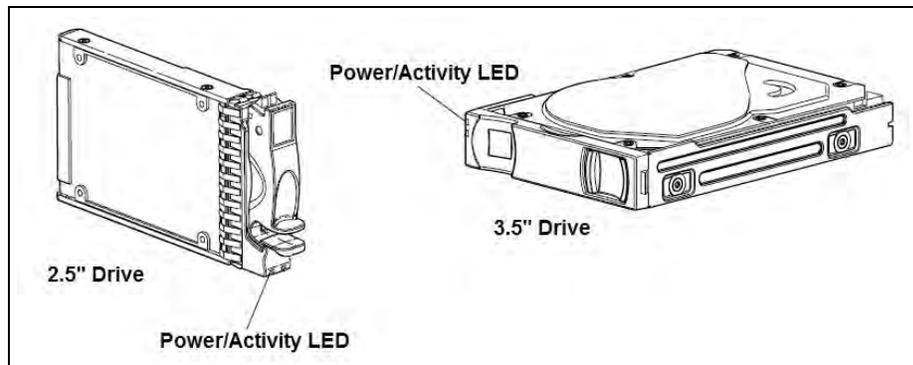

Figure 5.53 - Drive Module LEDs
4. Check that the Power/Activity LED located on the drive is illuminated green (see Figure 5.53).